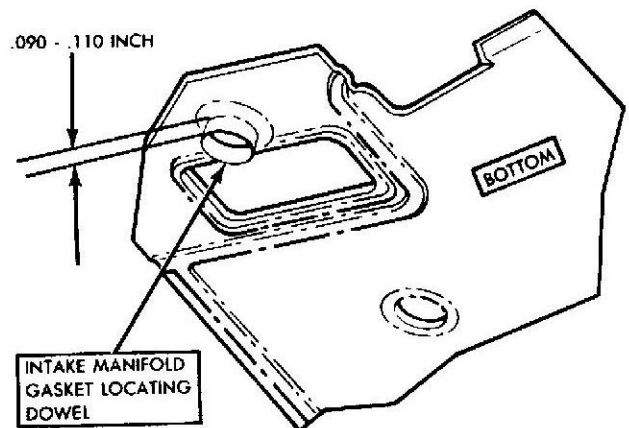

Fig. 1 Intake Manifold Gasket Locating Dowel
- (6) Inspect new intake manifold gasket for proper dowel length which should be between .090 and .110 inch (Fig. 1).
- (7) Install intake manifold as outlined in the 1978 Jeep Technical Service Manual, Volume I, page 1B-50.